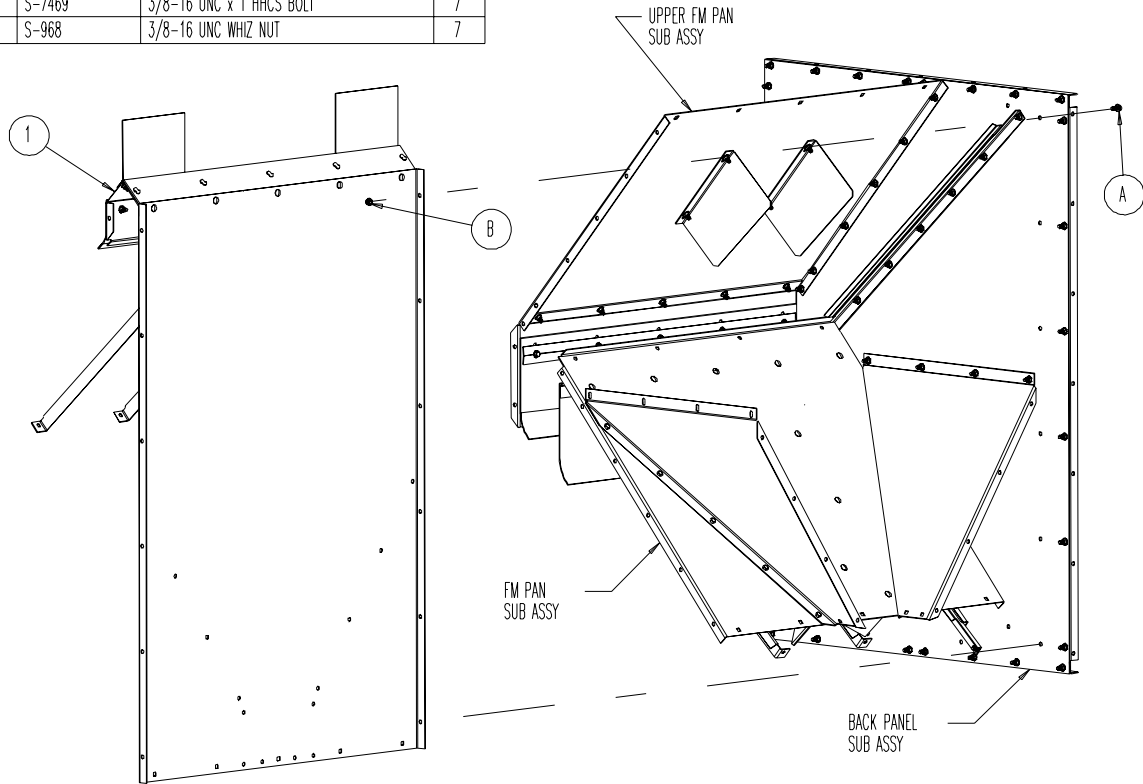

FIGURE 7
*(Refer to Figure 7 for hole alignment.)*
1. Attach the By-Pass Pan Sub Assembly (1) to the Back Panel Sub Assembly (2) as shown, using 3/8" x 1" HHCS Bolts and Whiz Nuts. The Upper Fm Pan Sub Assembly (3) and Fm Pan Sub Assembly (4) should already be attached to the Back Panel.